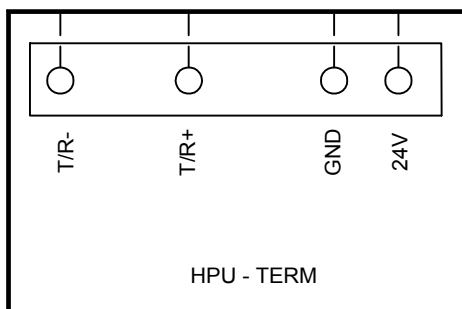

Figure 1-26
- Connect to the bottom of these wires a HPU Termination board. [See Figure 1-26.]